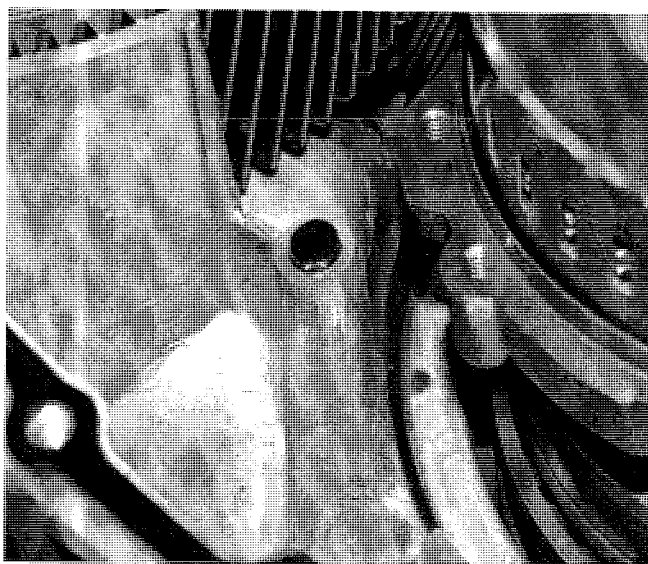

Fig. 21 Transmission Fluid Port Seal
53. Ensure that the transmission fluid port seal is properly installed into the transmission housing before installing the bellhousing. See (Fig. 21).